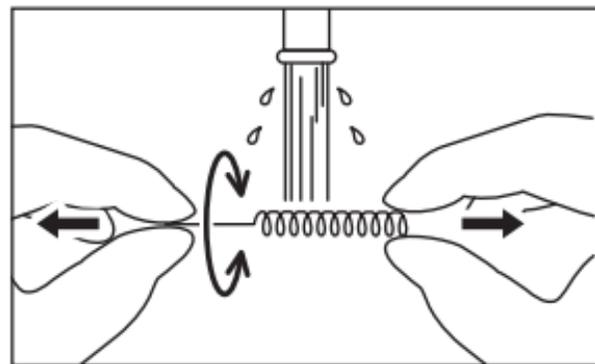

Fig. 19
4) After using the cleaning wire, clean the wire by pulling both ends of it with fingers while running water all around the wire for 15 seconds or more (Fig. 19).